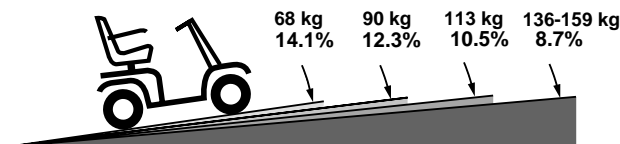

Figure 1. (3-wheel) Maximum Recommended Incline Angles
**WARNING! Even though your scooter is capable of climbing slopes greater than those illustrated in figures 1 and 1A, do not, under any circumstances, exceed the incline guidelines or any other specifications presented in this manual. Doing so could cause instability in your scooter, resulting in personal injury and/or damage to your scooter.**
Handicap public access ramps are not subject to government regulation in all countries, and therefore do not necessarily share the same standard percent of slope. Other inclines may be natural or, if man-made, not designed specifically for scooters. Figures 1 and 1A illustrate your scooter's stability and its ability to climb grades under various weight loads and under controlled testing conditions.
**WARNING! Any attempt to climb or descend a slope steeper than what is shown in figures 1 and 1A may put your scooter in an unstable position and cause it to tip, resulting in personal injury.**